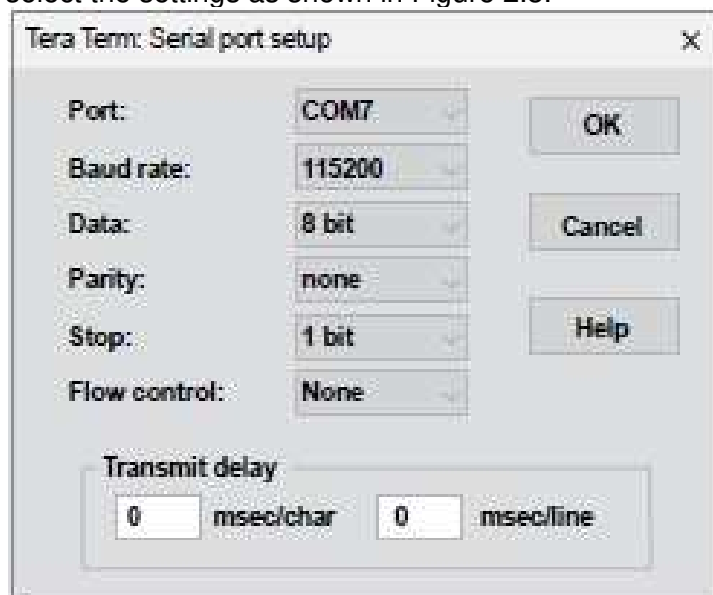

Figure 2.3
2. RSB-3720 can communicate with a host server by using serial cables. Common serial communication programs such as HyperTerminal, Tera Term or PuTTY can be used in this case. The example as the below describes the serial terminal setup using Tera Term on a Windows host: Open Tera Term on your Windows PC, and select the settings as shown in Figure 2.3.